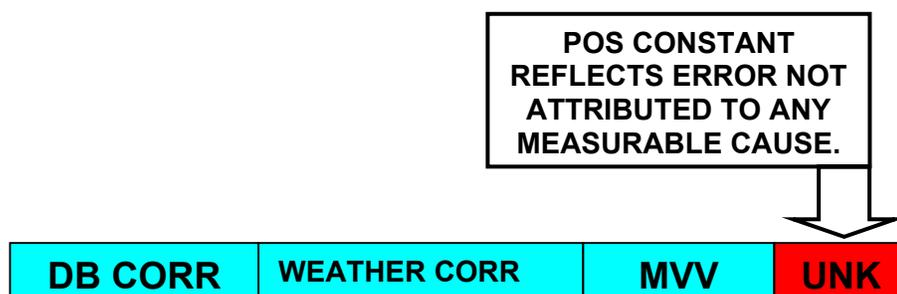

Figure 6-4.
- ii. Acquire measurements of the non-standard conditions that prevailed at the time of the registration. These measurements are usually computer meteorological message measured during or close to the time of the registration and MVV data for the ammunition registered. When these measurements are made and the data stored in AFATDS, the registration is recomputed. The result is to reduce the registration correction to a true position constant composed of correction for errors that cannot be attributed to any specific cause. Figure 6-4